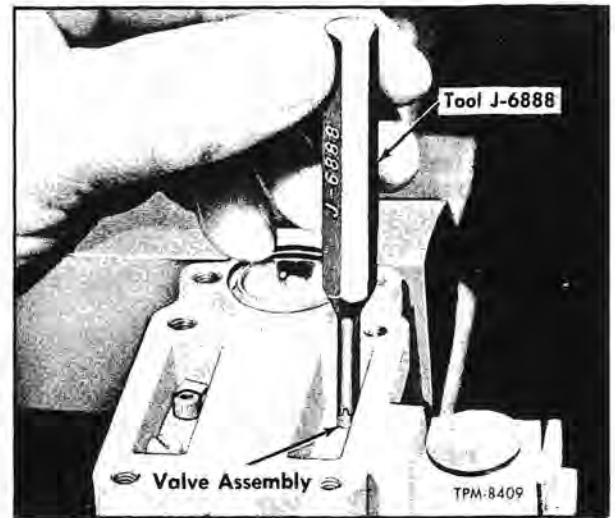
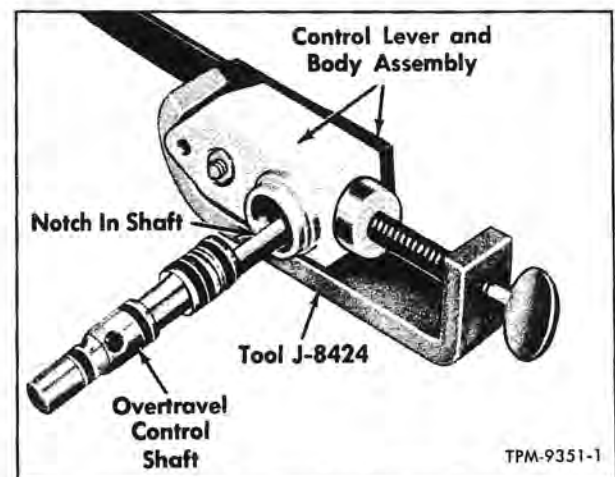

Figure 36—Replacing Valve Core Assemblies
Figure 37—Replacing Overtravel Lever
6. Remove valve stem lock clip (8) from stem of exhaust valve core. Spread locking arms and slide clip from around stem.
8. Remove intake valve core (9) with tool J-6888 as shown in figure 36. Remove inlet adapter screen.
9. Remove exhaust fitting (16) and screen (15), then remove exhaust valve core (14) with tool J-6888 as shown in figure 36.
10. On front valve only, remove two retainers (39F) and nylon balls (40F) from exhaust valve lever cavity in body. Threaded end of piston pin (11) can be used to lift ball retainers out of body.
11. Remove plug retainer (33) from overtravel control body (30). Retainer must be cut off. Use caution to avoid damage to nylon body. Remove overtravel body plug (25).
12. Place forked end of tool J-8424 around shaft in overtravel control body, then tighten clamp screw. See figure 37. **CAUTION: TIGHTEN TOOL UNTIL OVERTRAVEL CONTROL SHAFT (23) CAN BE TURNED 90° TO ALLOW NOTCH IN SHAFT TO PASS FREE OF OVERTRAVEL PISTON (26). DO NOT APPLY MORE PRESSURE THAN IS REQUIRED.** Remove overtravel control shaft (23) and overtravel control body seal (29) from body. Remove shaft O-rings (22, 24, and 42F). Back off vise jaw and take body and tool from vise. Remove tool, overtravel piston (26), overtravel lever large spring (27), and overtravel lever small spring (28) from body. Remove lever screw nut (34) from overtravel lever screw or stud. Remove lever (32) from body.
1. Install intake valve core (9) and exhaust valve core (14) in body with tool J-6888 in manner shown in figure 36. Tighten to 2-1/2 to 3 inch-pounds torque.
a. Install overtravel lever (32) on body. Place lever stud nut (34) on stud and tighten to 70-80 inch-pounds torque.
b. Place overtravel lever large spring (27), and overtravel lever small spring (28) inside piston (26). Insert piston in body (30).
c. On front valve, place four new O-rings (22, 24 and 42F) on overtravel control shaft (23) as shown (on rear valve there are only three O-rings). Lubricate shaft and O-rings with multi-purpose grease.
d. Position fork of tool (J-8424) so that shaft can be inserted in body. Carefully apply pressure with clamp screw (fig. 37). Compress springs only